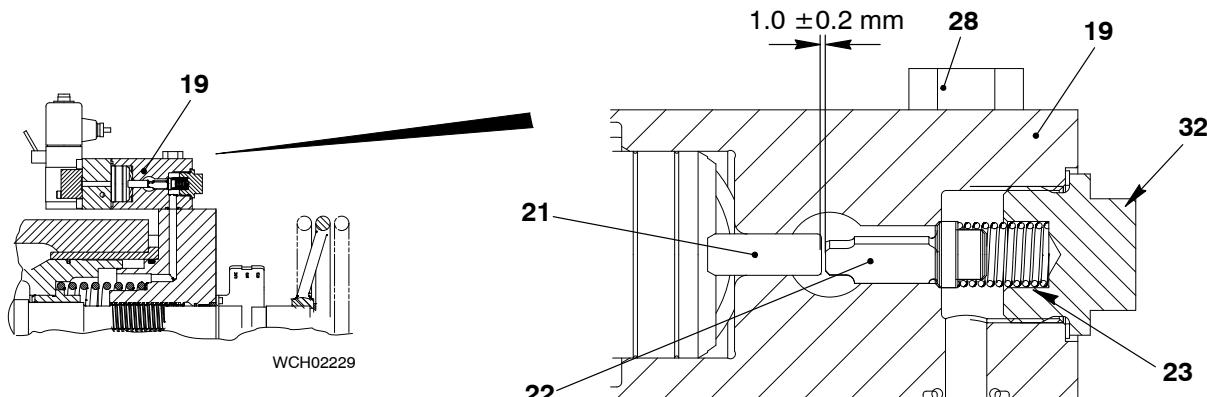

Fig. 3
- 9) Put the spindle nut (14) on the spindle (13).
- 10) Put the spindle (13) and spindle nut (14) into valve (12).
- 11) Attach the valve (12) together with spindle (13) and piston joint ring (20) to housing (33).
- 12) Apply Molykote paste to the inner cylinder of cover (9).
- 13) Put the spring (11) on to the spindle (13) in the cover (9).
- 14) Attach the cover (9), spring (11) and spindle (13) to the housing (33) with the eight screws (26).
- 15) Torque the eight screws (26) to value given in 0352-2, paragraph 1.
- 16) Install the handwheel (25).
- 17) Attach the control valve (19) to the cover (9) with the two bolts (28).
- 18) Torque the two bolts (28) to the value given in 0352-2, paragraph 1.
- 19) Put the piston (21), valve (22), spring (23) and screw plug (32) in position in the control valve (19), see Fig. 3.